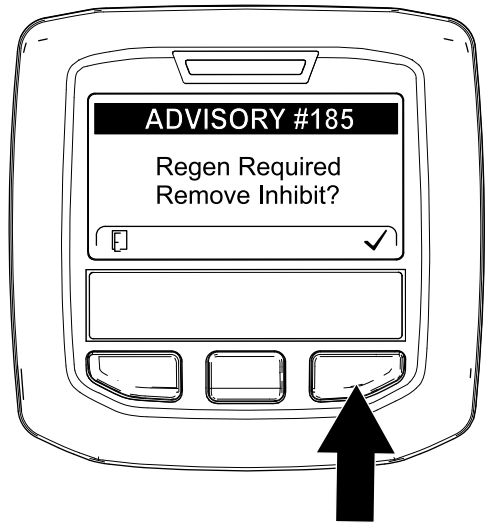

Figure 48
**Note:** If INHIBIT REGEN is set to ON, the InfoCenter displays ADVISORY #185 (Figure 48). Press button 3 to set inhibit regeneration setting to OFF and continue with the reset regeneration.